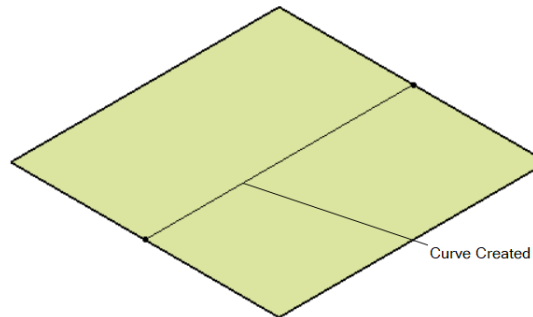

Figure 18-57 The curve created on the planer face
- Specify **0** and **1** as value in the **U** and **V** spinner respectively and choose **OK** from this dialog box. Figure 18-57 displays the curve created on the planer face.